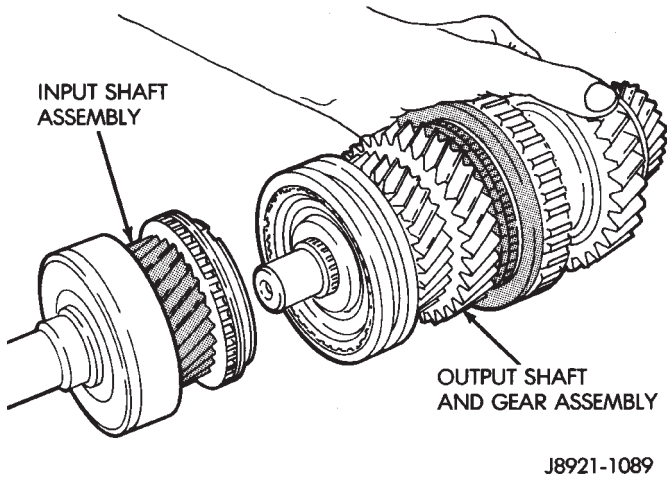

Fig. 59 Input Shaft Removal
(7) Remove input shaft from output shaft (Fig. 59).